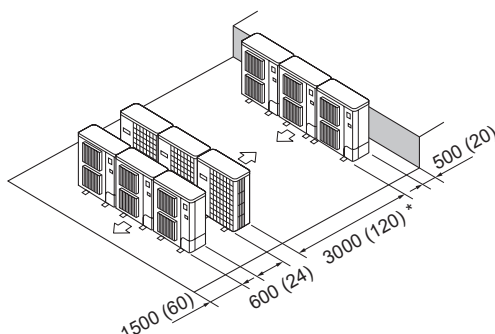

Fig. 2-17
- (6) Multiple parallel unit arrangement (Fig. 2-17)